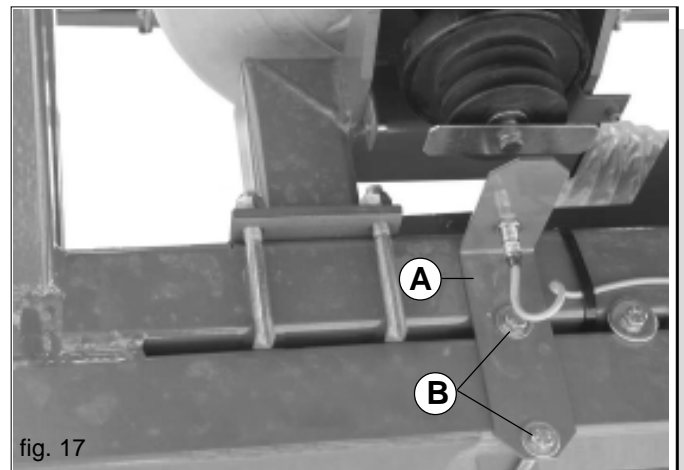

fig. 17
If a blower rotation speed (rpm) sensor is fitted it will be necessary to check that it is positioned correctly in front of the reading area (see supplementary instruction booklet). If required, loosen the screws (B) and move the sensor support (A Fig. 17).